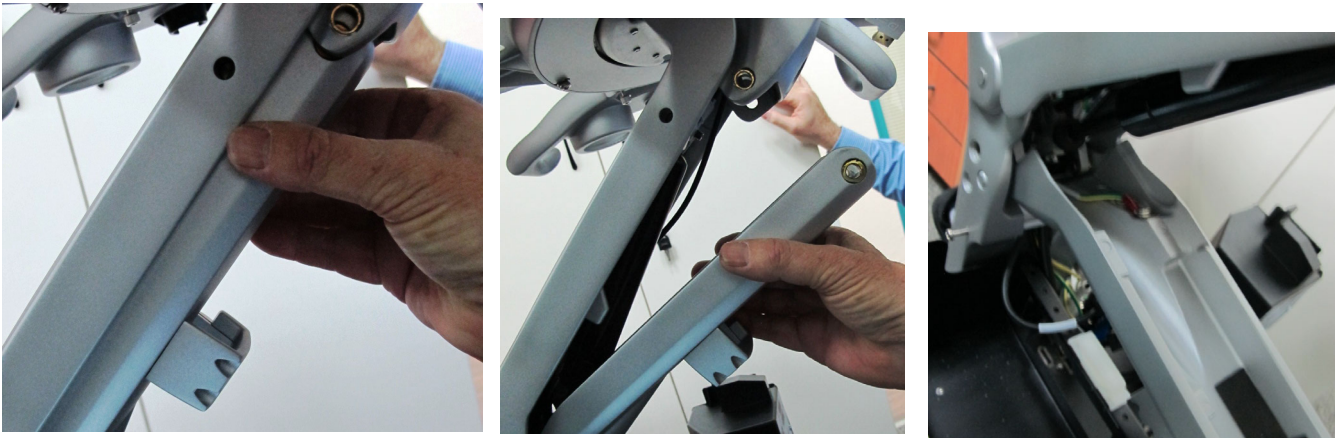

Figure 8-108 Upper Section of Lower Arm
5.) Lower the Lower Arm as shown in Figure 8-108 below.
- 6.) Supporting the OPIO platform with one hand, using the shaft previously removed, attach the upper section of the lower arm to the upper arm - refer to Figure 8-107 on page 8-85 and Figure 8-108 on page 8-86.